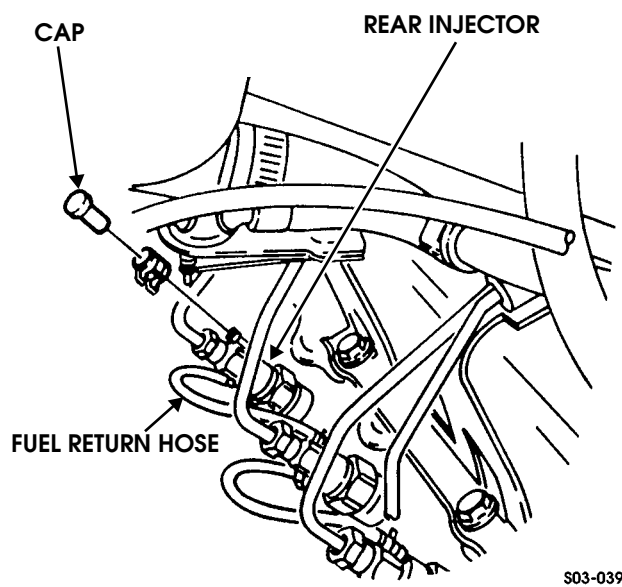

Figure 3-53: Rear Injector Fuel Cap Location
1. If removing rear injector, remove console and engine cover. Remove fuel return hose and cap from injector (Figure 3-53).